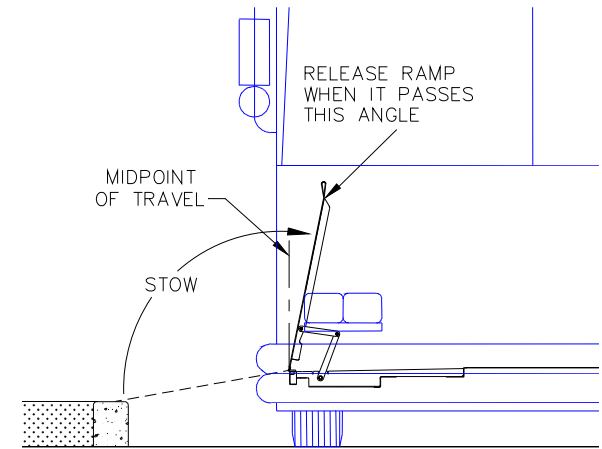

FIGURE 3-6: RAMP MIDPOINT DURING MANUAL STOW
- 3) Refer to **Figure 3-6**. Lift ramp and begin to push it toward the stowed position. Release the ramp after it passes through its midpoint of travel (approximately vertical), and it will continue moving toward the stow position without assistance.